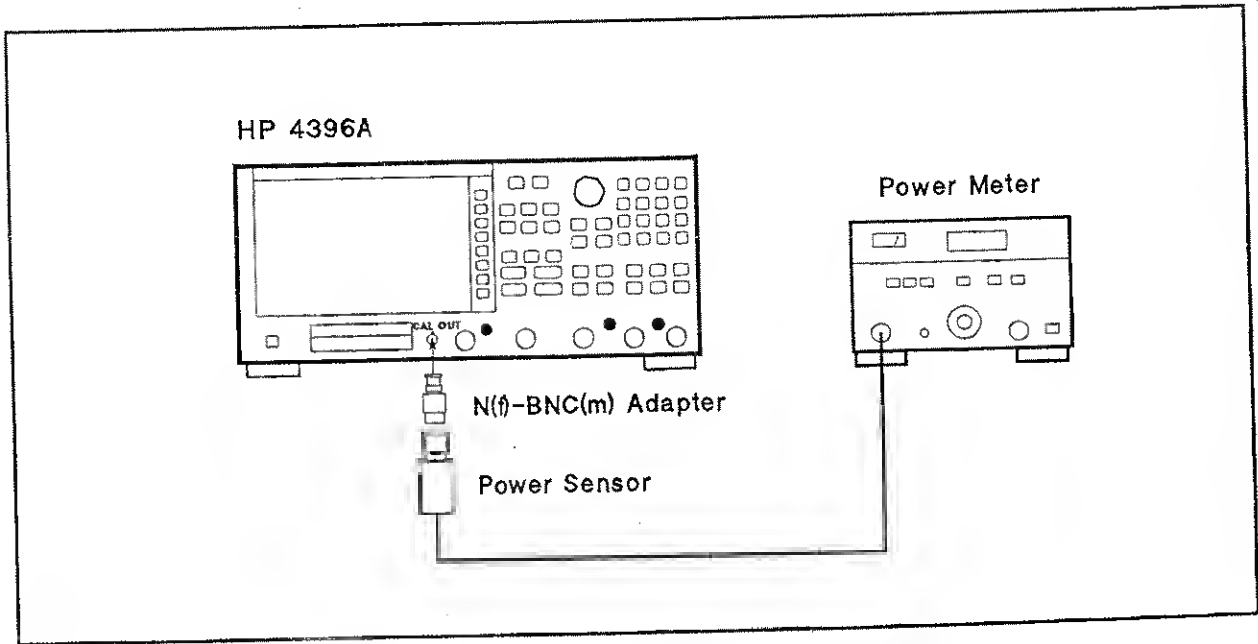

Figure 2-18. Calibrator Amplitude Accuracy Test Setup
2. Connect the test equipment as shown in Figure 2-18.